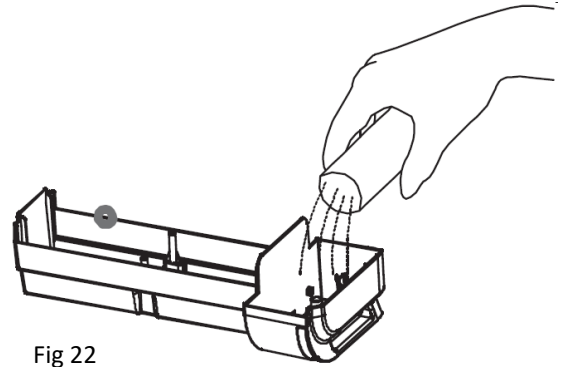

Fig 22
- 2) If dirt difficult to clean up, appropriate amount of detergent can be added for further cleaning. (Fig 22)